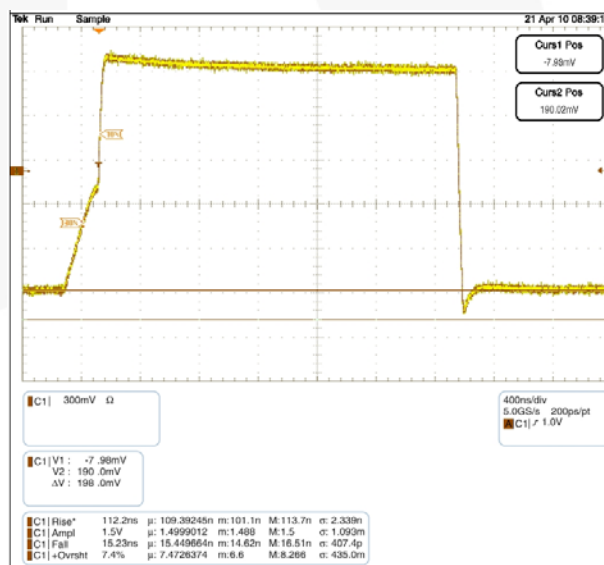

Figure 5. FXMA2102 Waveform C: 600pF, RPU: 2.2K
is a slave on the B port, the Npassgates act as a low resistive short between both ports until either of the port's VCC/2 thresholds are reached. After the RC time constant has reached the VCC/2 threshold of either port, the port's edge detector triggers both dynamic drivers to drive their respective ports in the LOW-to-HIGH (LH) direction, accelerating the rising edge. The resulting rise time resembles the scope shot in Figure 5. Effectively, two distinct slew rates appear in rise time. The first slew rate (slower) is the RC time constant of the bus. The second slew rate (much faster) is the dynamic driver accelerating the edge.
The FXMA2102 dynamic drivers have enough current sourcing capability to drive a 400pF capacitive bus. This is beneficial for instances when an I2C buffer / repeater is required. The I2C specification stipulates a maximum bus capacitance of 400pF. If an I2C segment exceeds 400pF, an I2C buffer / repeater is required to split the segment into two segments, each of which is less than 400pF. Figure 5 is a scope shot of an FXMA2102 driving a lumped load of 600pF. Notice the (30% - 70%) rise time is only 112ns ( $R_{PU} = 2.2K$ ). This is well below the maximum edge rate of 300ns. Not only does the FXMA2102 drive 400pF, but it also provides excellent headroom below the I2C specification maximum edge rate of 300ns.